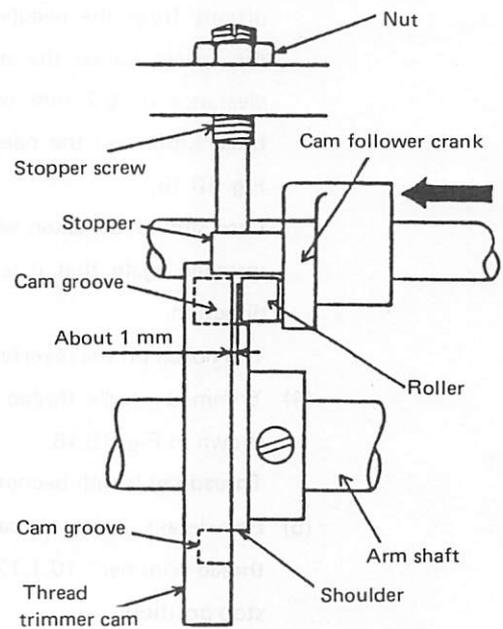

Fig. 10.12
- (1) Adjust the cam follower so that the roller is found on the cam shoulder about 1 mm distant from the thread trimmer cam, as shown in Fig. 10.12.
- (2) Depress the cam follower crank in the direction of arrow shown in Fig. 10.12 by hand to make sure the roller can be engaged and disengaged with the cam groove smoothly.
- (3) The roller engaging and disengaging area should be within the range where the cam groove is concentric with the arm shaft.
If the roller cannot be engaged and disengaged smoothly, check that the roller is on the shoulder, loosen the nut shown in Fig. 10.12, tighten the stopper screw until it comes into contact with the cam follower crank stopper, loosen the stopper screw by about 1/3 turn and then tighten the nut.